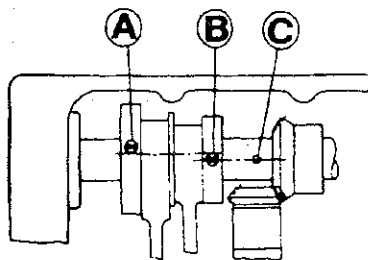

Fig. 19
Turn the balance wheel to lower the Feed Dog (A). When the top of the feed dog is flush with the Throat Plate Surface (B), the Needle Point (C) should be 3mm below the surface of the throat plate. The adjustment should be made by adjusting the position of the feed cam and feed lift cam (Fig. 19).
Standard position is shown in Fig. 19. For the third screw (A) of feed cam and the second screw (B) of feed lift cam to Arm Shaft Oil Hole (C) is set to the direction of the balance wheel turning.